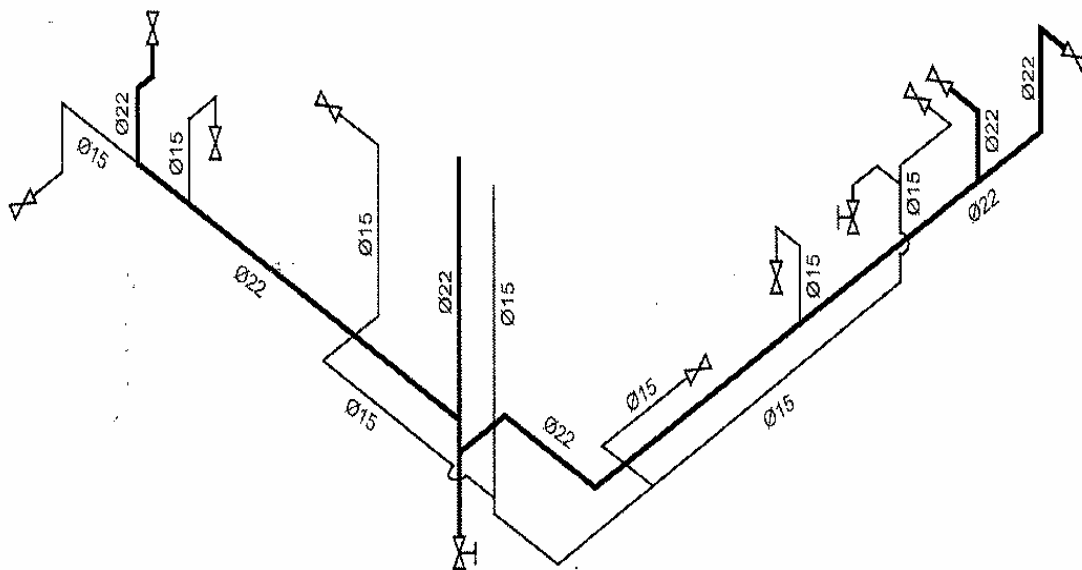

FIGURE 2
- 1.4 FIGURE 2 shows the lay-out of a water system.